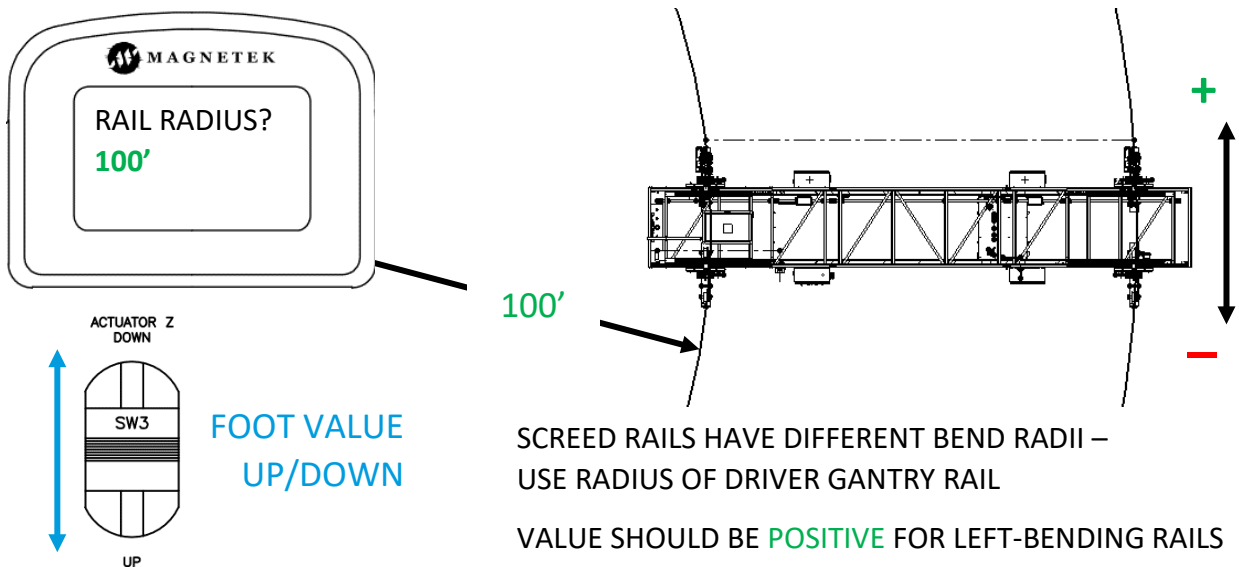
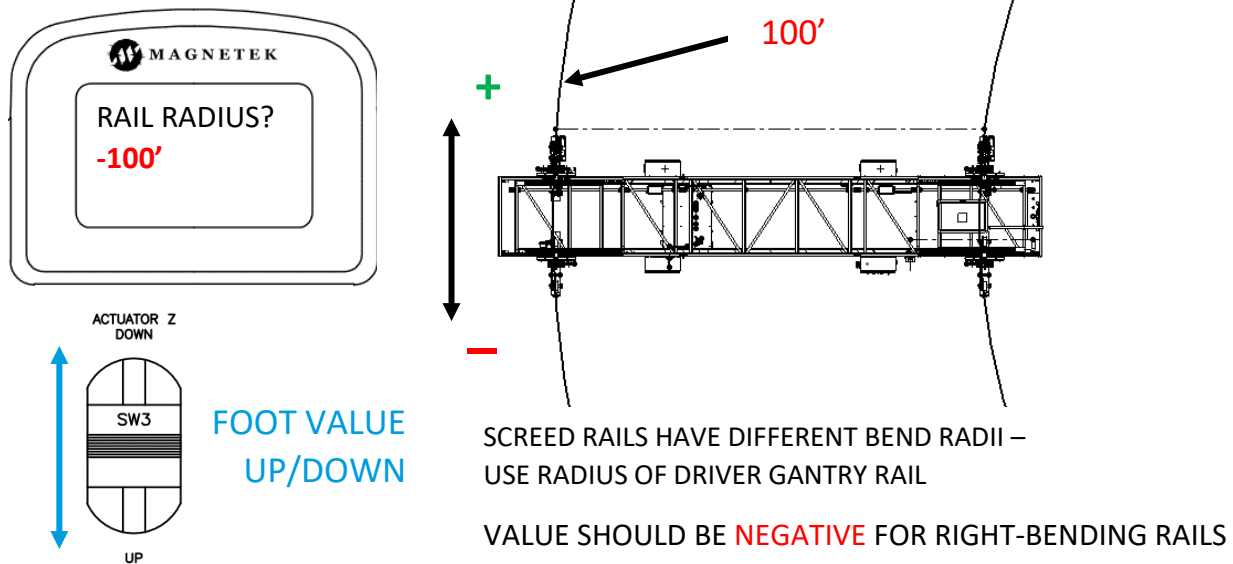

Figure 58: Setting Left-Bending Rail Radius (POSITIVE)
Figure 59: Setting Right-Bending Rail Radius (NEGATIVE)
- When the Belly Box’s readout screen prompts input of “*Rail Radius?*,” set the appropriate screed rail bend radius value using SW3. Left-bending (toward the Driver Truss) rail configurations should be assigned positive polarity, as in Figure 58. Right-bending (toward the Passenger Truss) rail configurations should be assigned negative polarity, as in Figure 59. To change the polarity, use the Tram LEFT and Tram RIGHT Joystick to change the sign of the radius. Momentarily toggle SW1 up to acknowledge the input is correct. The TyBOT unit will default to a paused state as signaled by the **YELLOW** indicator.